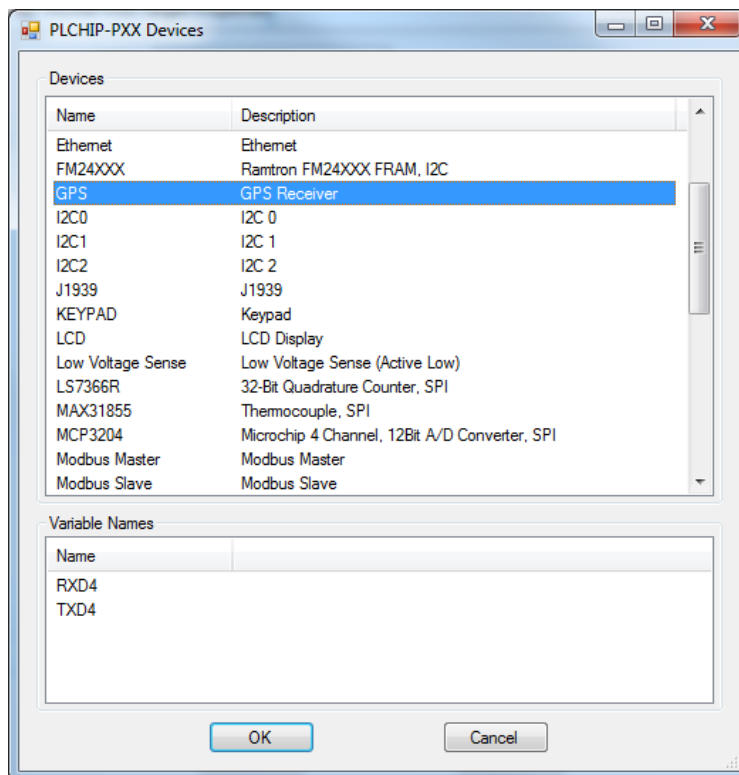

Figure 29-2
3. Click the **ADD DEVICE** button. The Target's **Devices** window will open. All the available devices and features for the target are shown in the Devices section. Scroll down and select GPS and the UART (UARTx where x represents the UART to use for the GPS communications). Figure 29-2 shows the Target's Devices window.